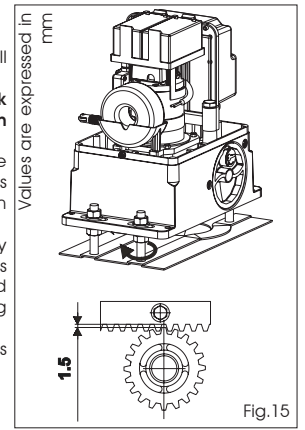

Fig. 15
- When the rack has been installed, to ensure it meshes correctly with the pinion, it is advisable to lower the gearmotor position by about 1.5 mm (Fig.15).